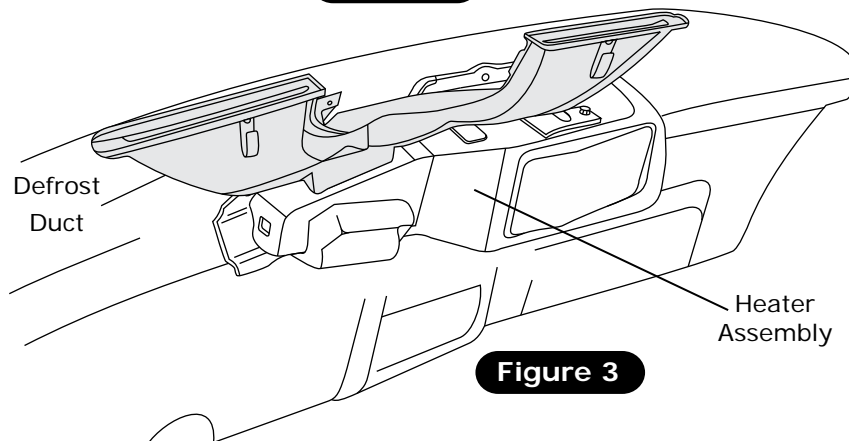

Figure 3
10. Remove the OEM defrost duct (discard) (See Figure 3, below).
11. Remove the OEM heater assembly (discard) (See Figure 3, below).